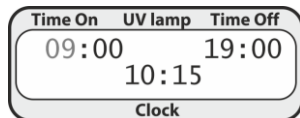
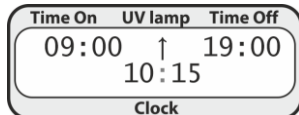

Figure 7. Auto mode setup
Figure 10. UVR-Mi in Auto mode, recirculator is on (↑ icon).
6.4. **Auto mode (figure 7, figure 10).** Select the mode (see 6.3). Setup the starting time (top line, left), ending time (top line, right) and current time (bottom line). Press ►/■ to apply the changes.
6.4.1. In the Auto mode, recirculator follows the schedule, e.g. on figure 10.